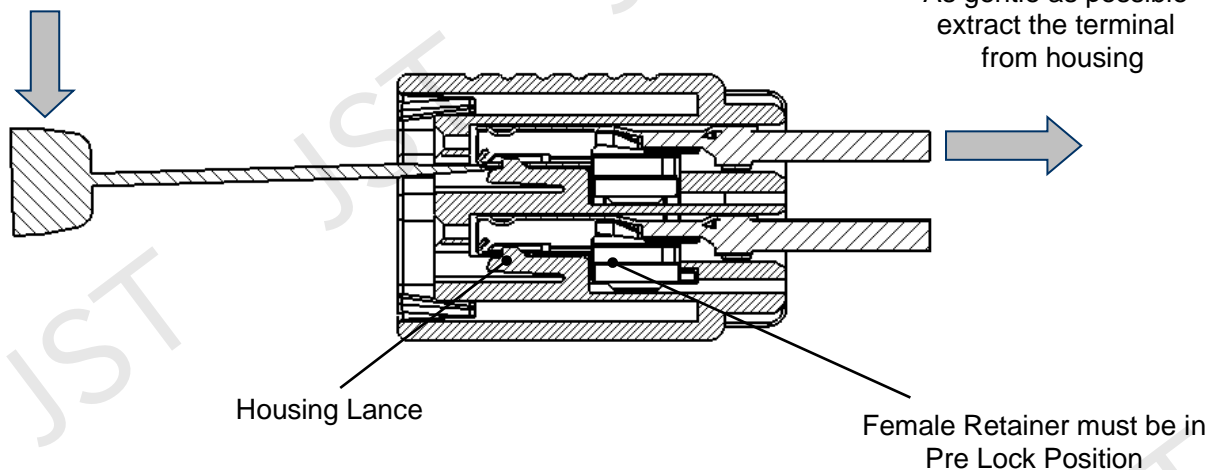

Fig. 15
- ① Check to make sure the Female Retainer is released into its pre lock position before attempting the extraction of the female terminals.
- ② To extract the female terminal from the housing, the operator can use a 1.2mm flat screwdriver and insert the screwdriver into the position to release the housing lance as shown in Fig.15
- ③ Gently pry the housing lance so it is lifted just enough to release the terminal and apply enough force to remove the terminal from the housing. (See Fig. 15)